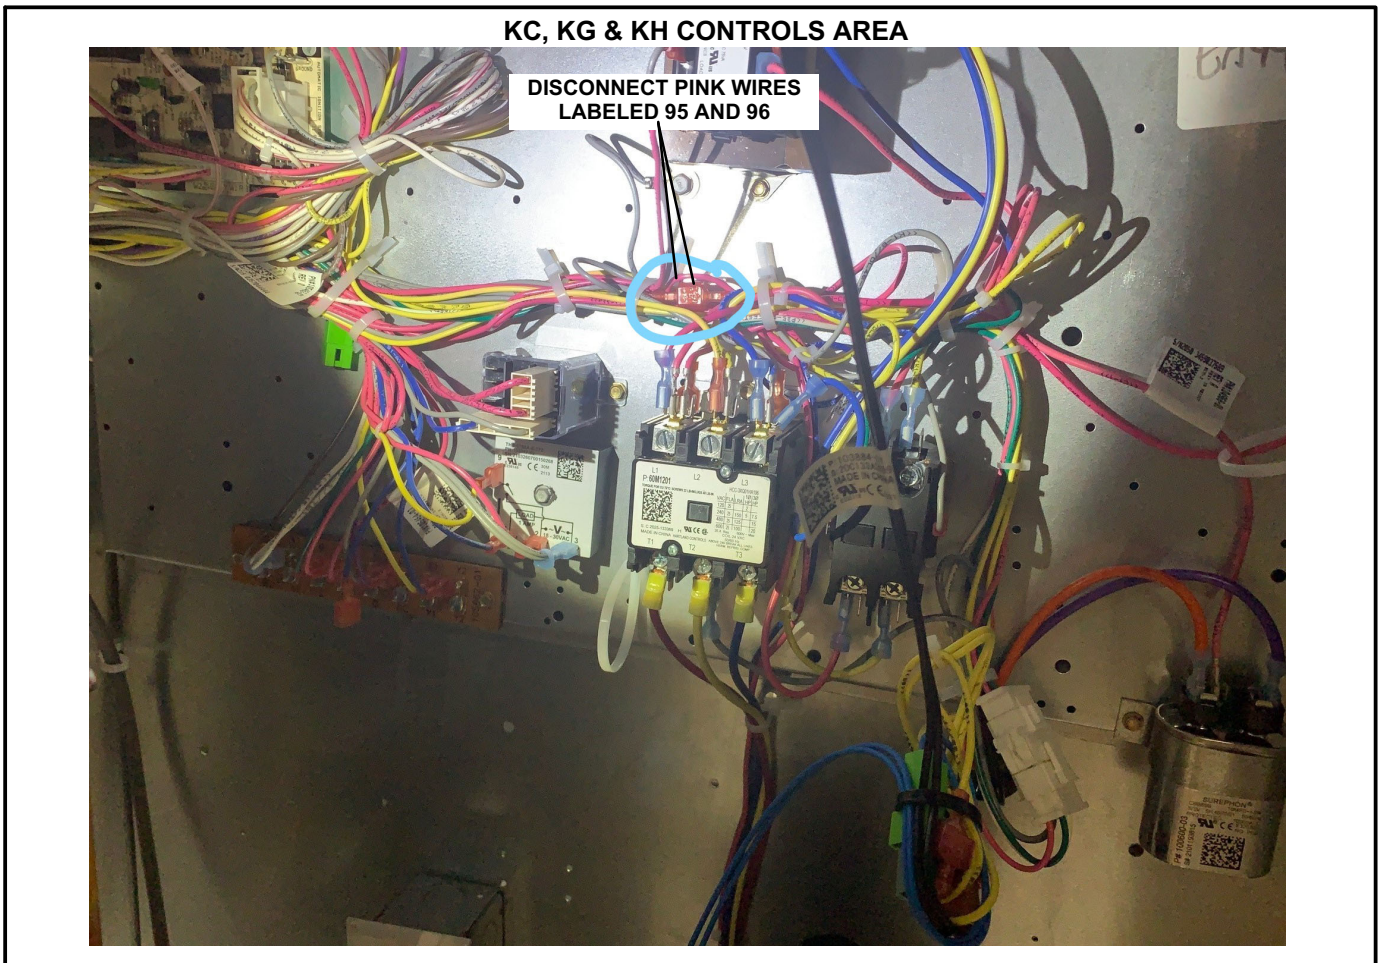

FIGURE 7
- 1 - Locate and disconnect pink wires labeled 95 and 96 in the control area above compressor. See figure 7.